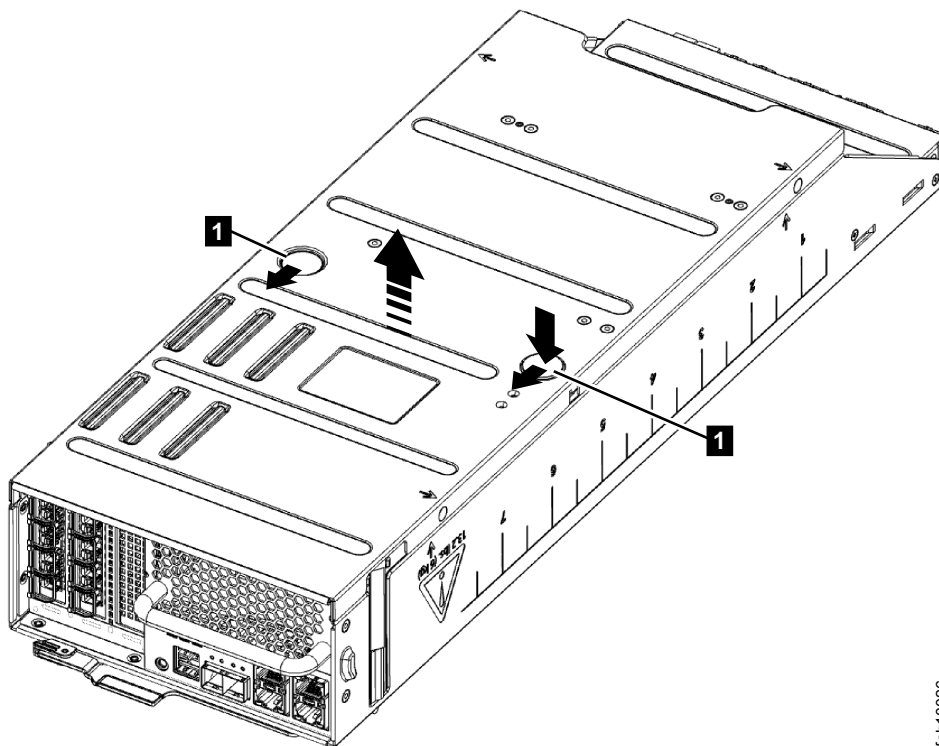

Figure 76. Replacing the canister cover
2. Open the cover of the canister by depressing the recessed, blue touch points on the lid and sliding the lid away from you, as shown in Figure 76.